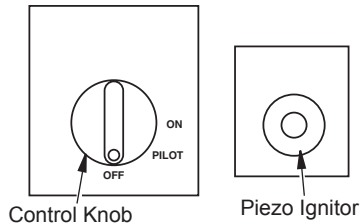

Figure 23 - Control Knob In The OFF Position
4. Wait five (5) minutes to clear out any gas. Then smell for gas, including near the floor. If you smell gas, STOP! Follow "B" in the safety information, page 18. If you don't smell gas, go to the next step.
5. Turn control knob counterclockwise  to the PILOT position. Press in control knob for five (5) seconds (see Figure 23).
6. With control knob pressed in, press and release ignitor button (see Figure 23). This will light pilot. The pilot is attached to the front burner. If needed, keep pressing ignitor button until pilot lights.